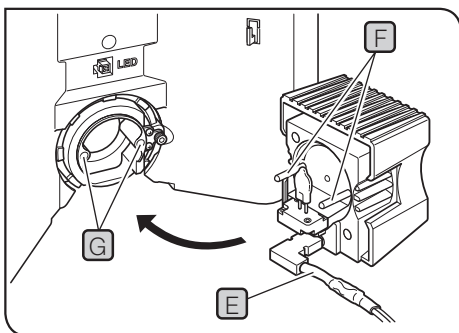

Fig.47
- 2 Insert the lamp cable **E** in the direction shown in Fig.47.